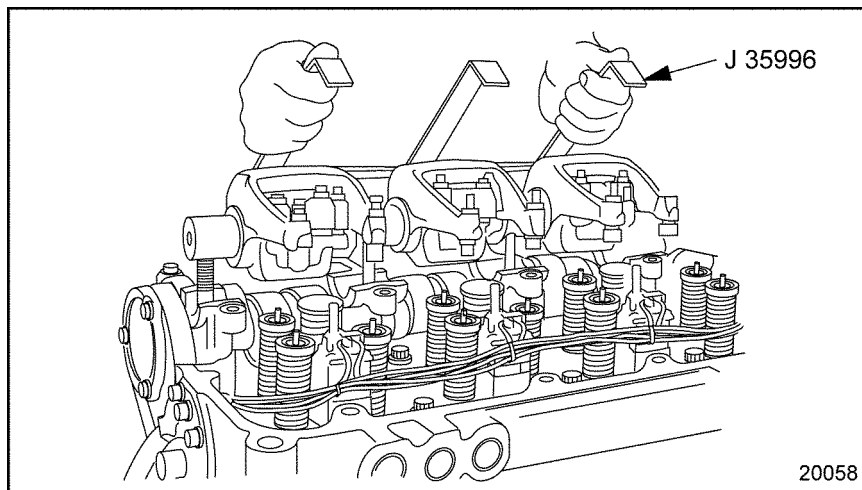

Figure 11-2 Rocker Arm/Shaft Assembly Removal/Installation
7. Remove all the rocker shaft mounting bolts and nut from the front or rear rocker shaft assembly. Using rocker arm lifter (J-35996-A), see Figure 11-2, lift the assembly straight up and off of the head and place in a clean area on the bench.